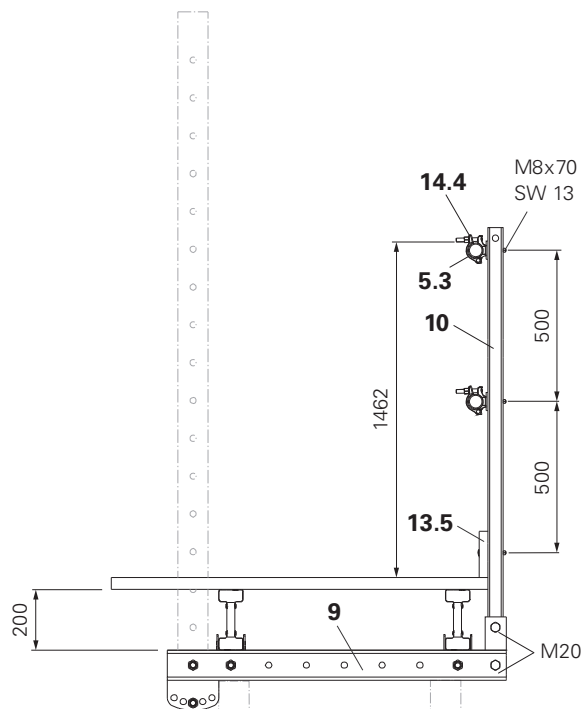

Fig. A1.21
- Fix Guardrail Connector CB (14.4) to the Guardrail Posts (10) using F.H. Bolts M8 x 70 MU, SW 13. (Fig. A1.21)